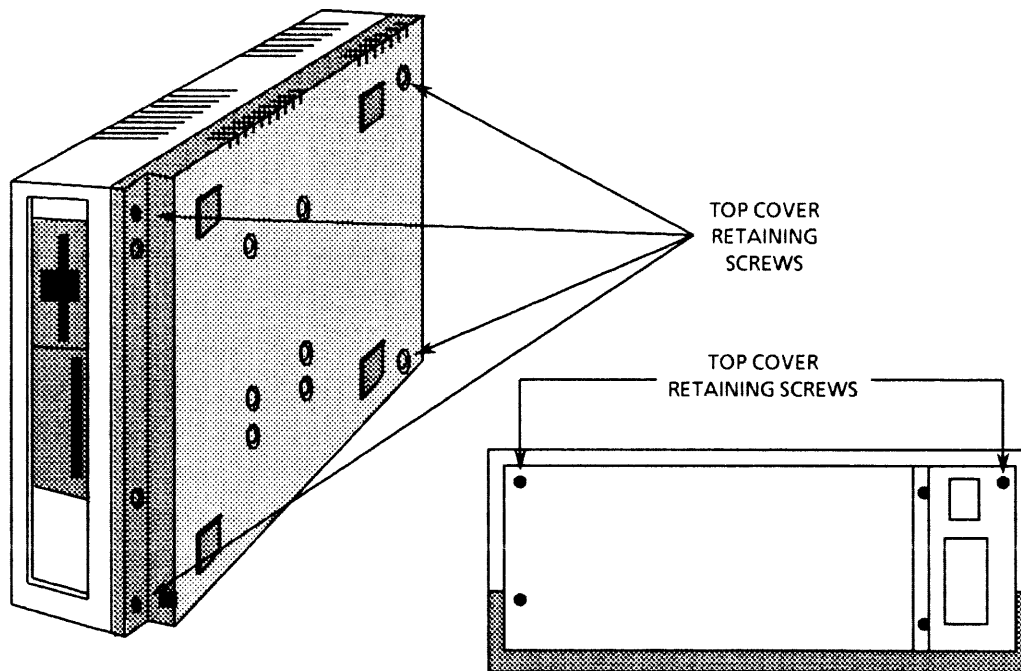

Figure 2-1. Removing Top Cover
2. As shown in Figure 2-1, turn the system on its side to gain access to the bottom of the chassis.